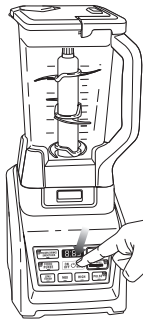

Fig. 8
- When you have reached your desired consistency, stop the appliance by pressing the power button (⏻) and wait for the Stacked Blade Assembly to stop turning. (Fig. 8)